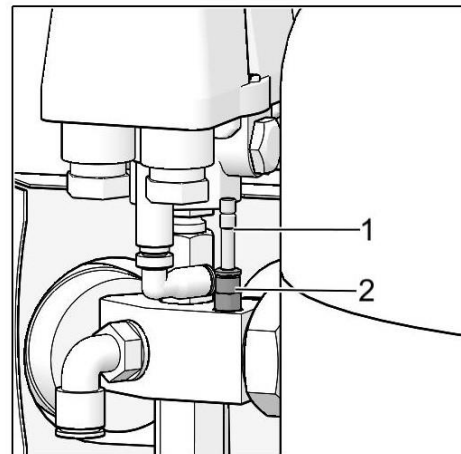

Fig. 6: Connecting the cabinet pressure gauge to the compressor
- Check connection of the cabinet manometer hose to the pneumatic block of the compressor (Fig. 6).